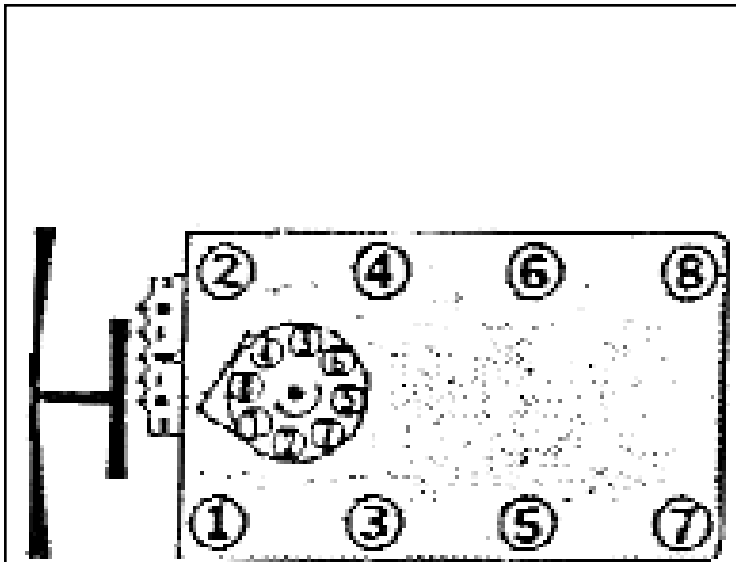

Figure 1
1. Turn the engine over in direction of rotation until the No. 1 intake valve closes and continue until the pointer on the front cover is approximately five degrees before top dead center (BTDC). See Figure 1 for firing order.